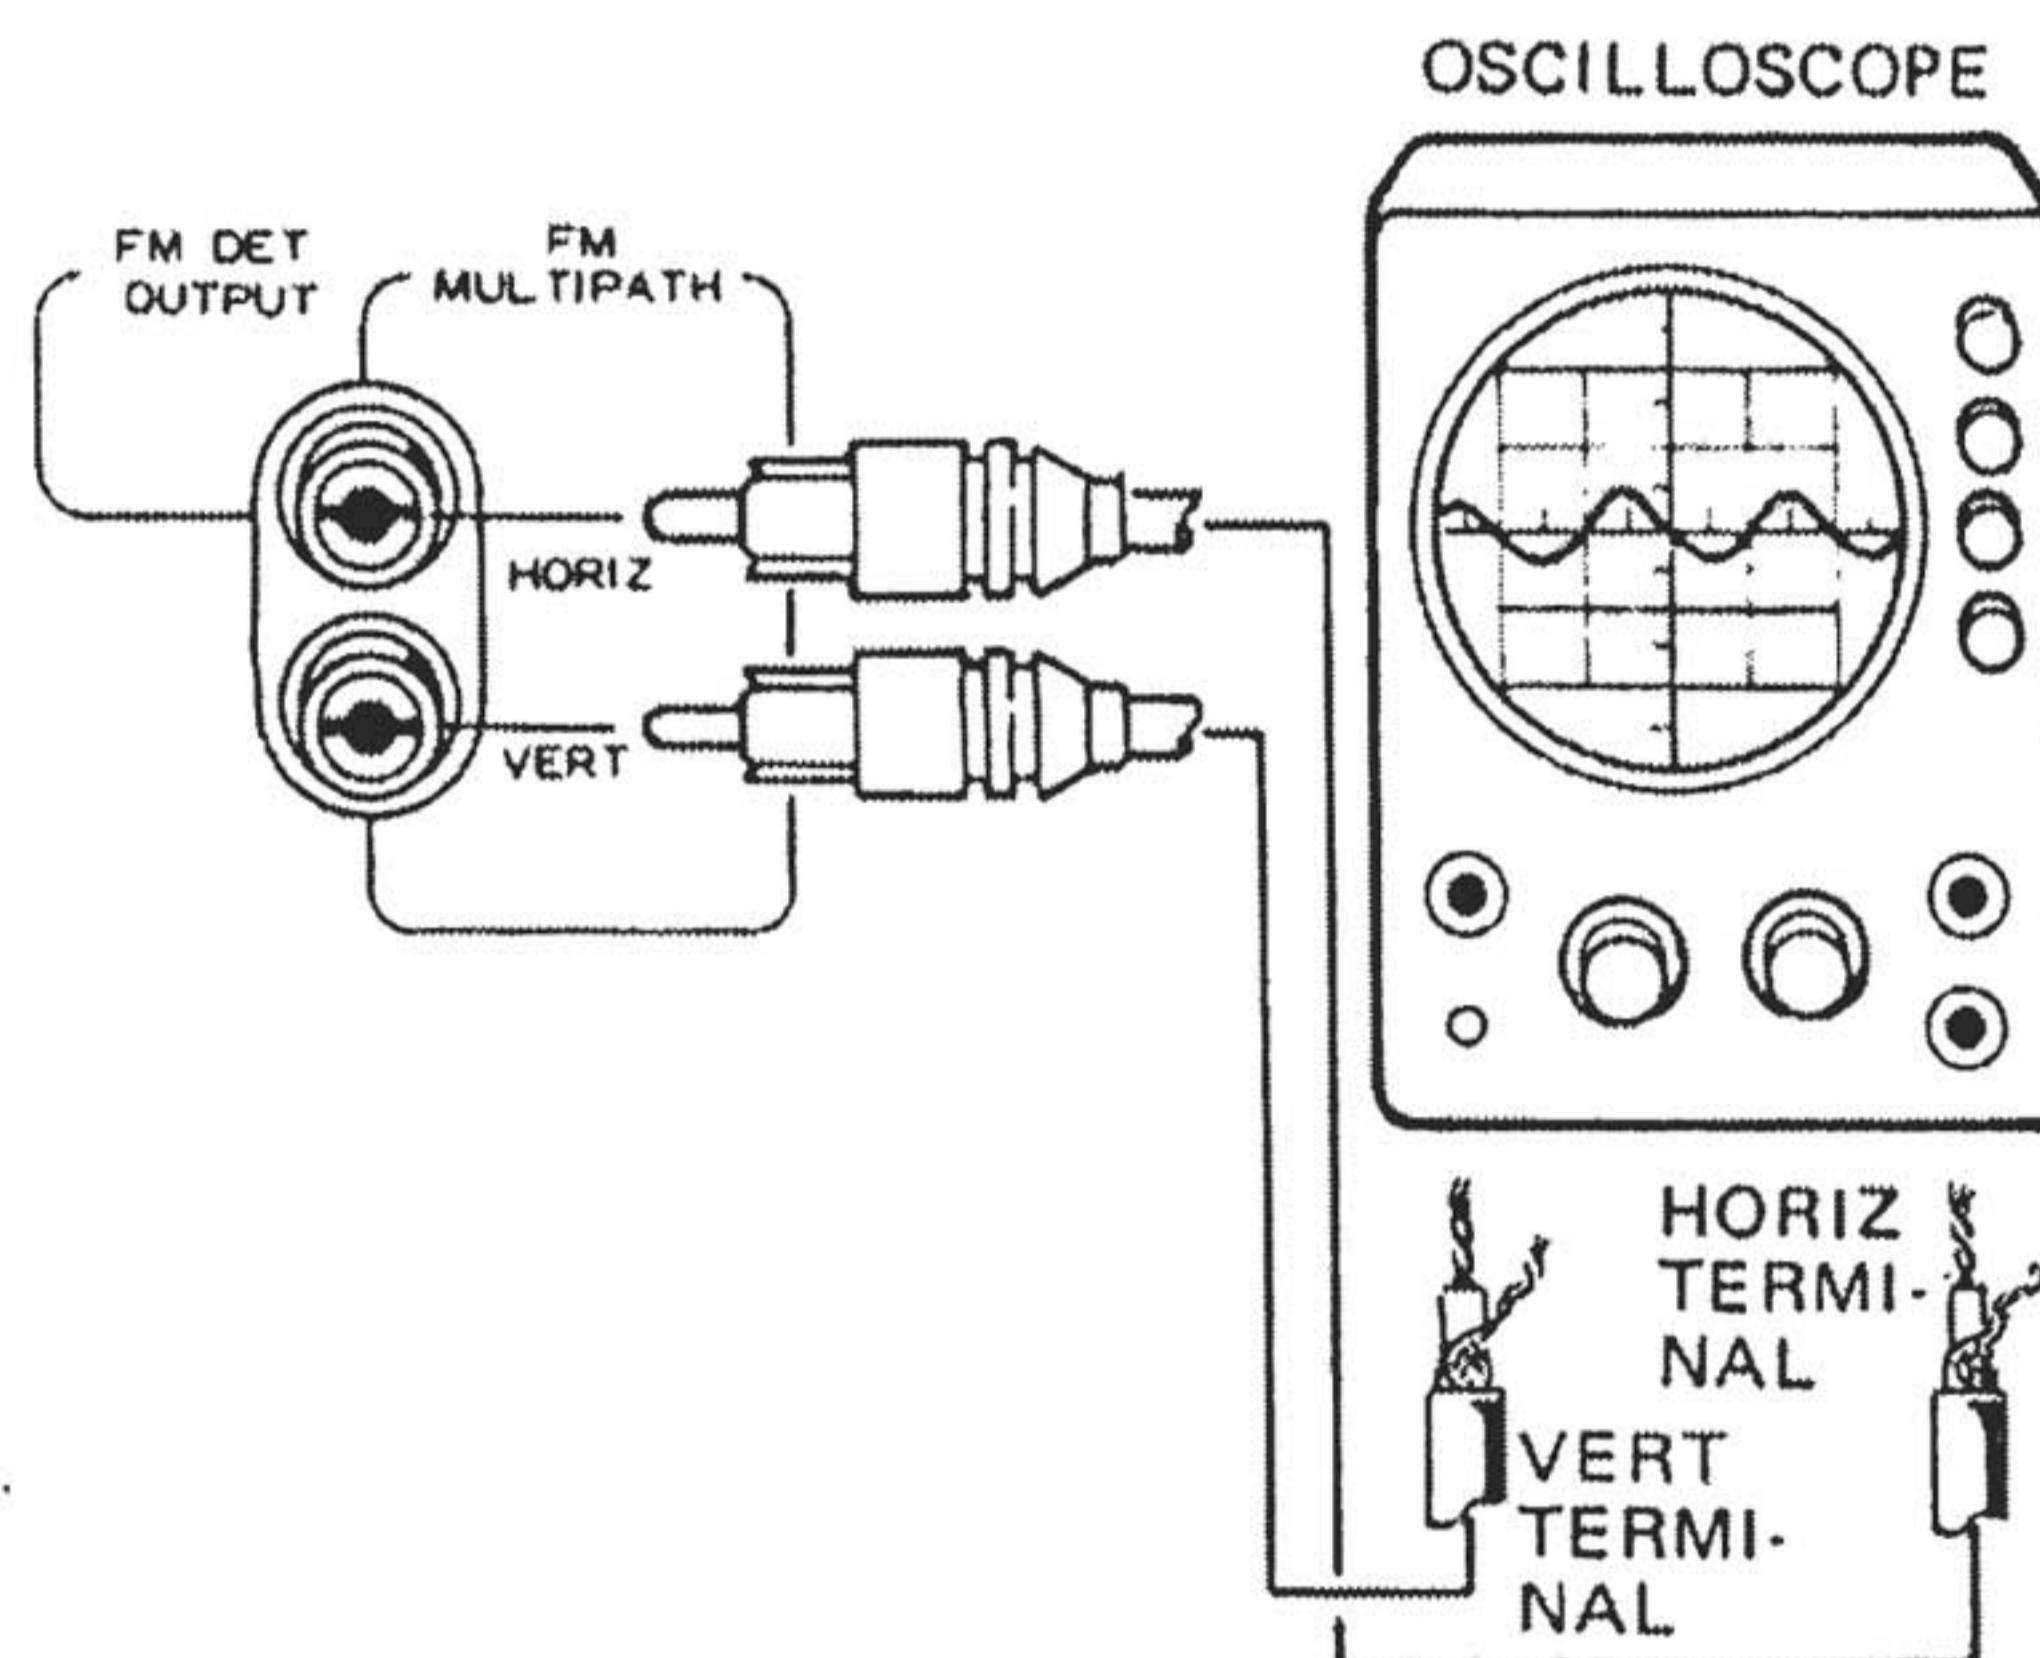

Fig. 11
1. As shown in Fig. 11, use good quality shielded cable to connect VERT (lower) and HORIZ (upper) MULTIPATH jacks to the vertical and horizontal input terminals of an oscilloscope.